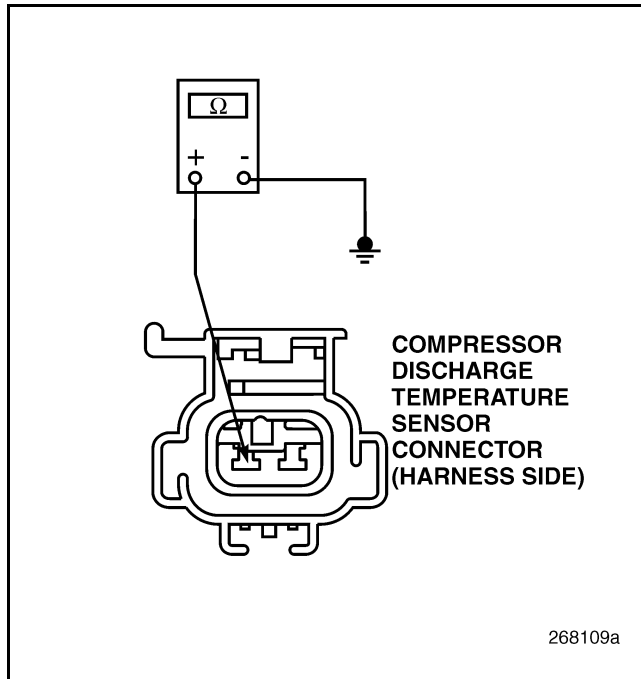

Figure 827
4. Check for continuity between pin 2 of the CDT Sensor harness connector and a good ground (see Figure 827).